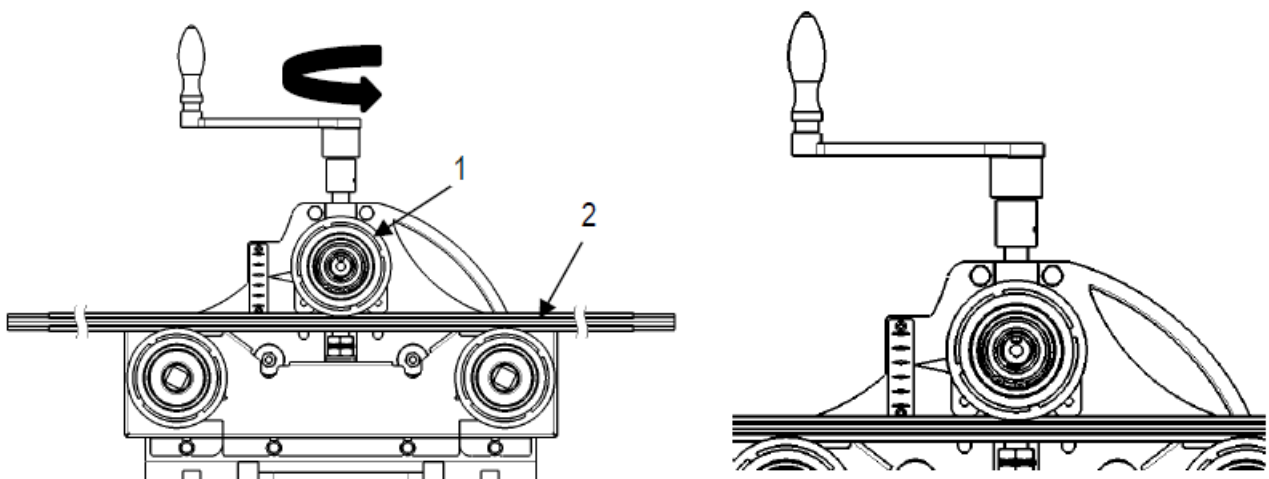

Fig. 14: Position upper roller (1) until it comes into contact with the conductor rail (2) (e.g. horizontal bend)
- For setting up, the conductor rail to be bent (conductor rail with insulating profile) can also be placed on the two lower rollers, and the upper roller can be turned down until it rests on the conductor rail (see Fig. 14).